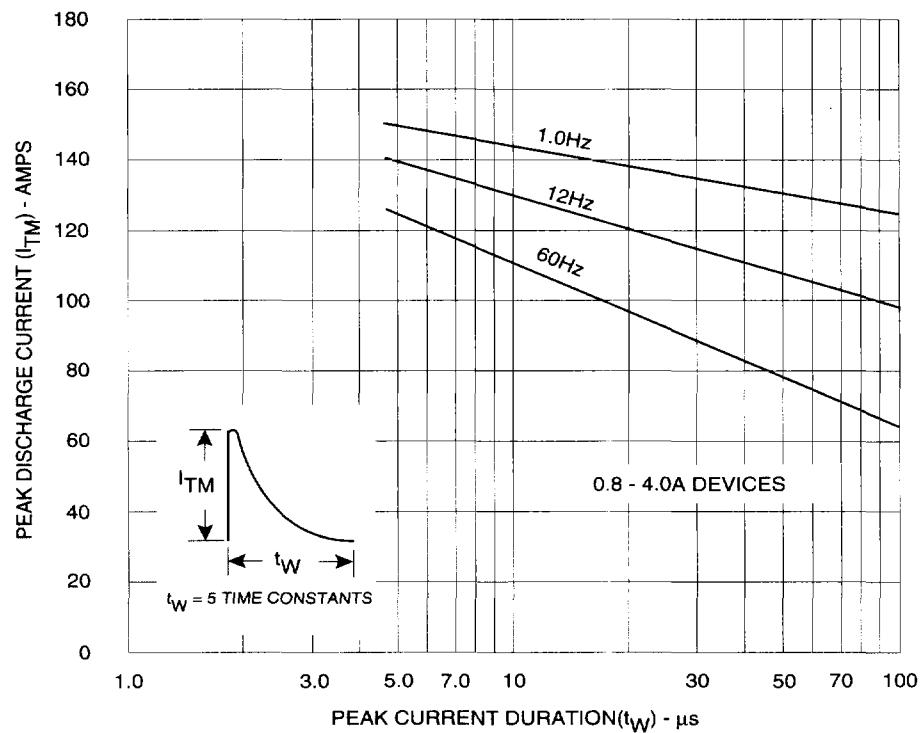

Figure 5.20 Peak Repetitive Capacitor Discharge Current
- (7) 0.8 - 4.0A devices also have a pulse peak forward current on-state rating (repetitive) of 75A. This rating applies for operation at 60Hz, 75°C maximum tab (or anode) lead temperature, switching from 80V peak, sinusoidal current pulse width of 10μs minimum, 15μs maximum. See Figures 5.20 and 5.21.